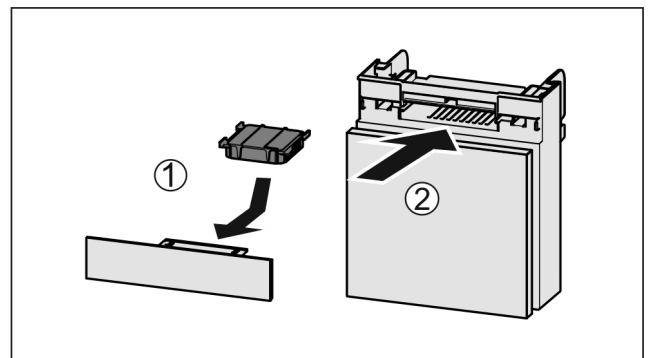

Fig. 155
- Insert the carbon filter as shown in the diagram Fig. 155 (1).
- Push the compartment in Fig. 155 (2).